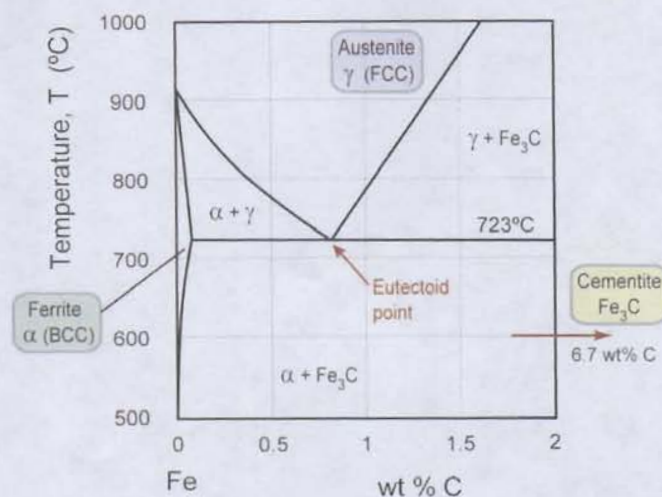

Figure 15: The Fe-C phase diagram for compositions of carbon steels below 1000°C, including the eutectoid point.
24. *Hyper-eutectoid* steels contain  $> 0.8\text{wt}\% \text{ C}$ . A high carbon steel containing  $1.0\text{wt}\% \text{ C}$  is cooled slowly from  $1000^\circ\text{C}$  in the austenite field. Refer to the Fe-C phase diagram in Figure 15 to answer the following: